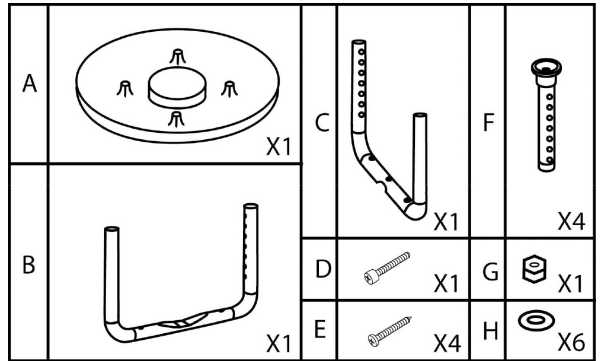

Fig. 1
1. Take all parts out of packaging and check before assembly (see Fig. 1).